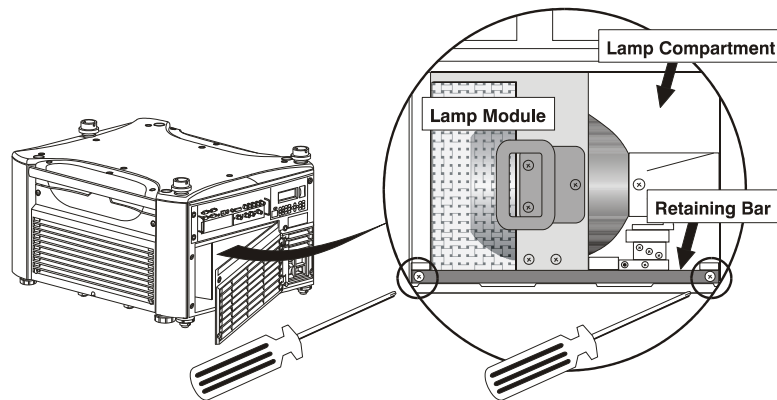

Figure 4.3. Remove Retaining Bar
Remove the two (2) screws that secure the retaining bar along the bottom edge of the lamp module using a #2 Phillips screwdriver. See **Figure 4.3**. Swing the bar aside—it is hinged on the left.